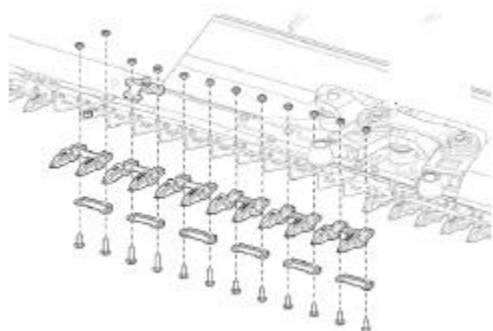

Figure 122
3. Remove 4 to 6 guards from around the right-hand knife head. Figure 122